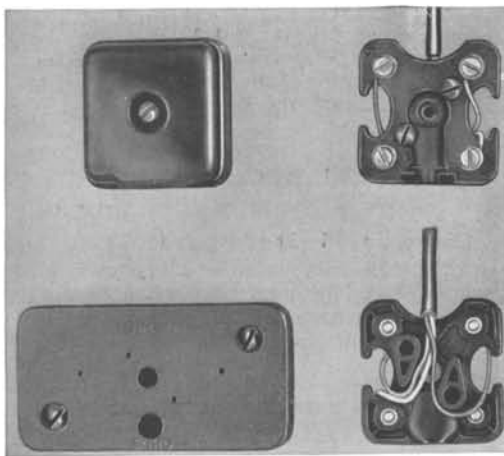

FIG. 7—42-TYPE CONNECTING BLOCK AND 168A BACKBOARD
6.03 The 42-type connecting block (shown in Fig. 7) is installed as follows: